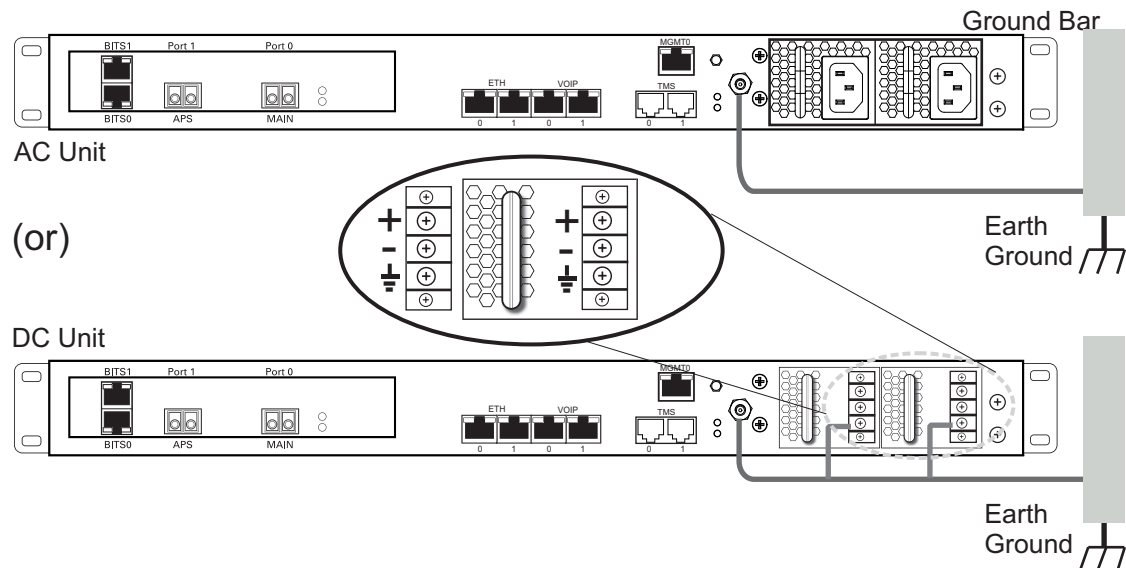

Figure 2.7
- Do NOT daisy chain the ground between equipment. Use a ground bus bar, as show in Figure 2.7 on page 22.
1. Connect one end of a ground wire to the ground lug of the 3200 series gateway (AC or DC model). See Figure 2.7 on page 22.